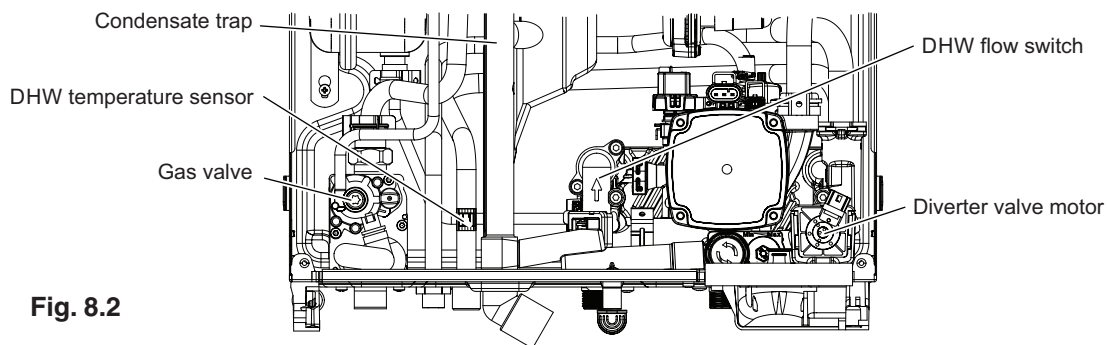

Fig. 8.2
8.10 DHW TEMPERATURE SENSOR - Fig. 8.2
8.12 DHW FLOW SWITCH - Fig. 8.2
8.21 DIVERTER VALVE MOTOR - Fig. 8.2
8.22 DIVERTER VALVE CARTRIDGE - Fig. 8.2